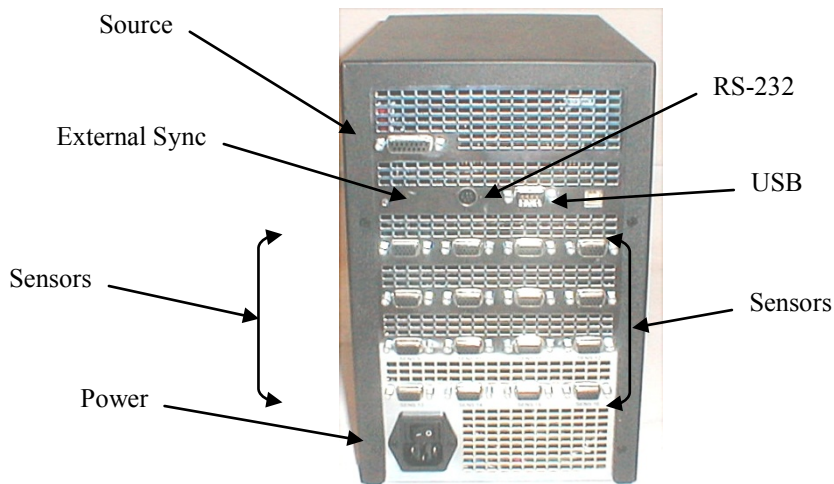

Figure 1-2 LIBERTY 240/16 Rear Panel
3. Examine the rear panel of the LIBERTY and review the locations of the source, sensor, power, RS-232, USB, and external sync ports. The layout of the rear panel is similar for LIBERTY 240/8 and 240/16. The only difference is the number of sensor ports. See Figure 1-2.